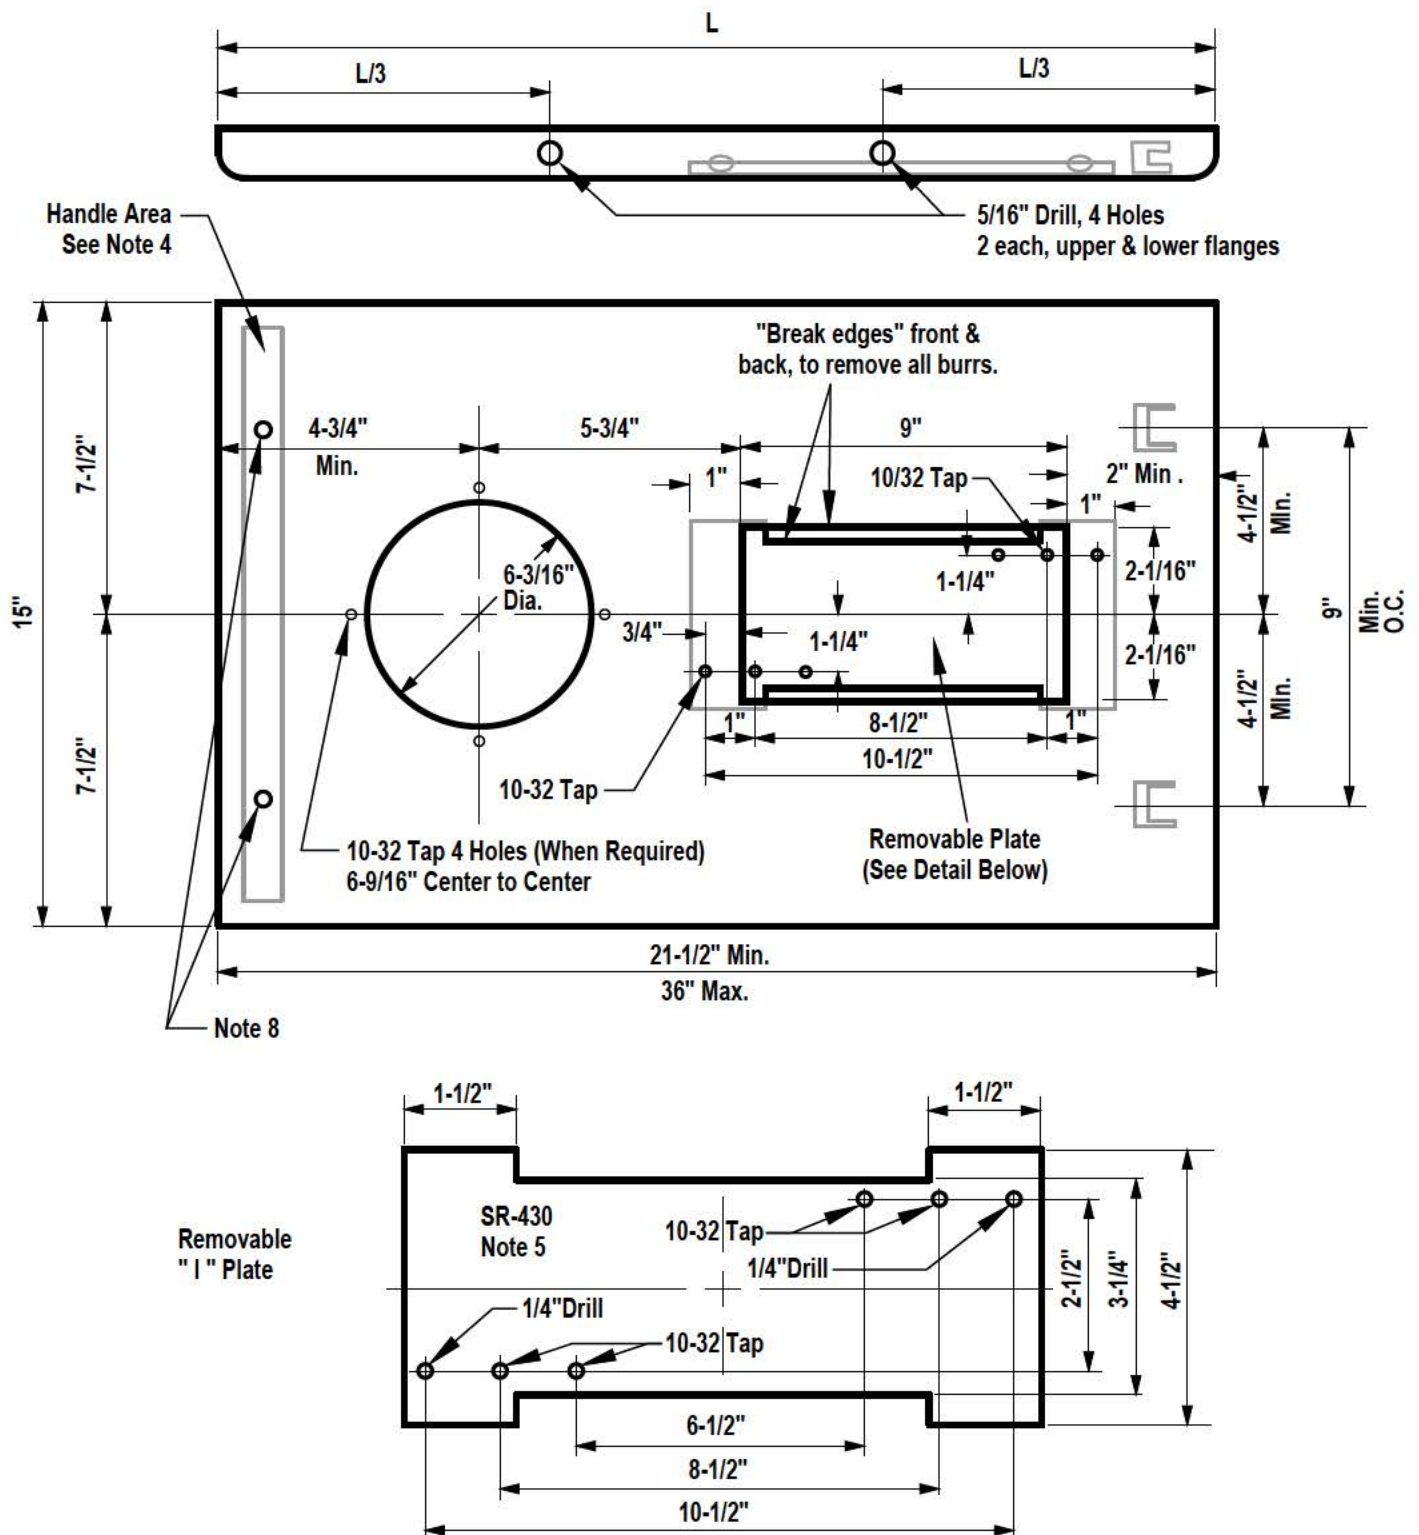

FIG. 1 - FOR ALL EXCEPT RATE 14, 90A CUSTOMERS.
7. Removable plate(s) shall be secured to rear of panel by screw of such a length so as not to protrude through face of panel. Fig. 1 and Fig. 2 only.